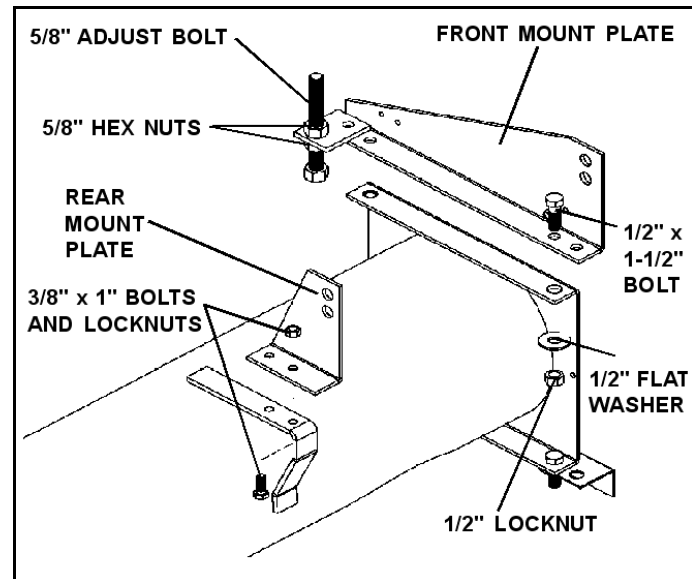

Figure 3.6
See Figure 3.6 and 3.7.
1. Install front mount plate onto head plate of powerhead using two 1/2" x 1-1/2" bolts, locknuts, and 1/2" flat washers (Figure 3.6). Tighten securely.
3. Assemble rear mount plate onto tube bracket (Figure 3.6) with two 3/8" x 1" bolts and locknuts; tighten securely.